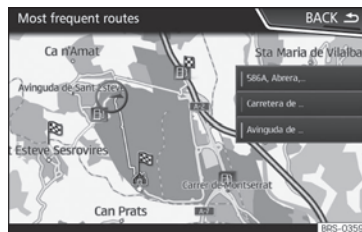

Fig. 187 Predictive navigation
- On the main screen of the Navigation menu, in the pop-up window, press the **FREQUENT ROUTES** button. To display frequently followed routes press the **Show on map** button » **Fig. 187**.